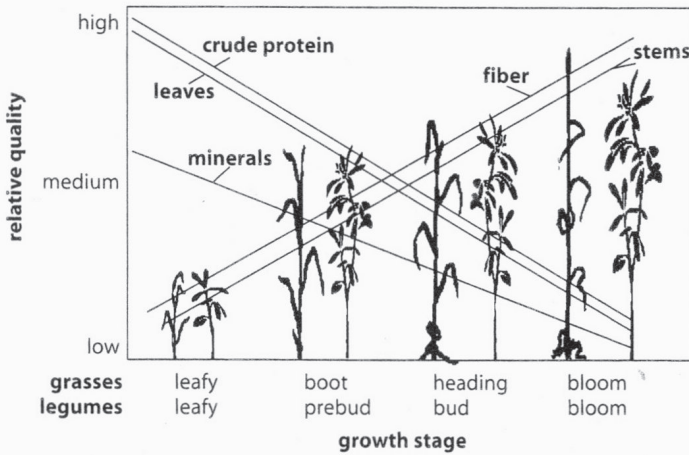

Figure 2. Effect of plant maturity on forage intake and digestibility
- Pasture height can be kept close to optimum more of the time, thus reducing leaf aging, leaf drop, and increased fiber content of forage. This results in a higher-quality diet for grazing animals (figure 2).